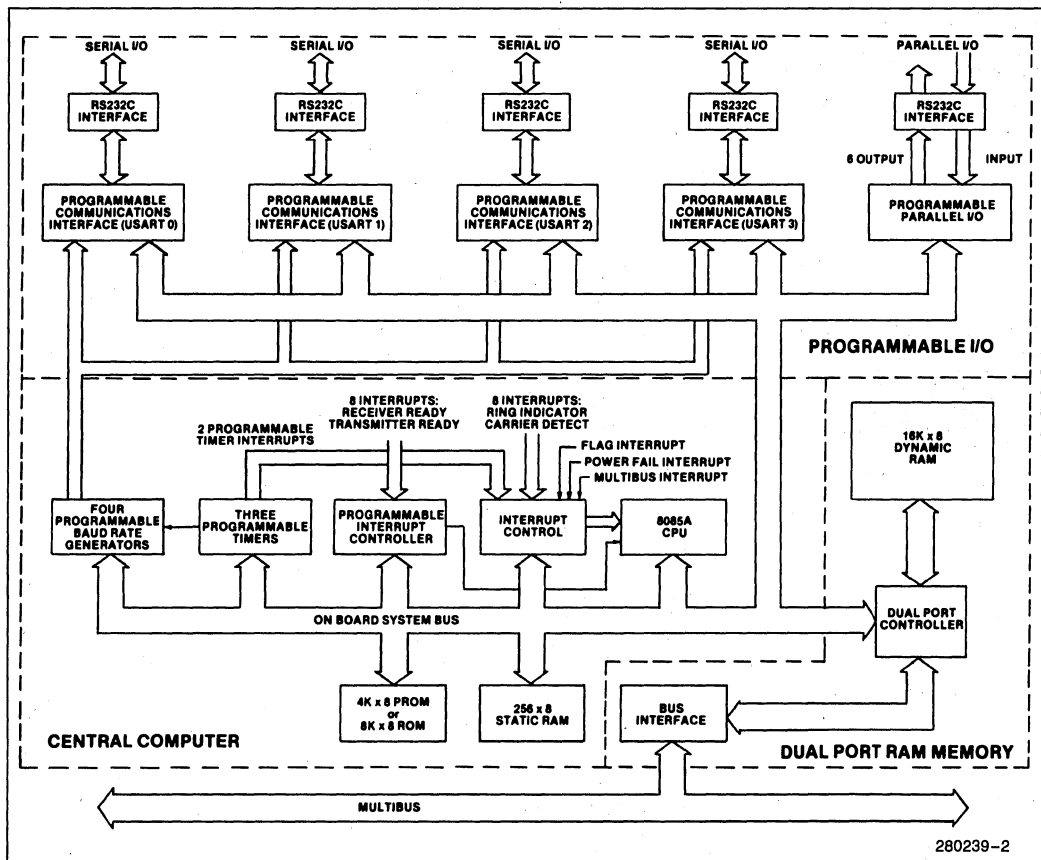

Figure 1. iSBC® 544 Intelligent Communications Controller Block Diagram
**Architecture** — The iSBC 544 board is functionally partitioned into three major sections: I/O, central computer, and shared dual port RAM memory (Figure 1). The I/O hardware is centered around the four Intel 8251A USART devices providing fully programmable serial interfacing. Included here as well is a 10-bit parallel interface compatible with the Bell 801 automatic calling unit, or equivalent. The I/O is under full control of the on-board CPU and is protected from access by system bus masters. The second major segment of the intelligent communications controller is a central computer, with an 8085A CPU providing powerful processing capability. The 8085A together with on-board EPROM/ROM, static RAM, programmable timers/counters, and programmable